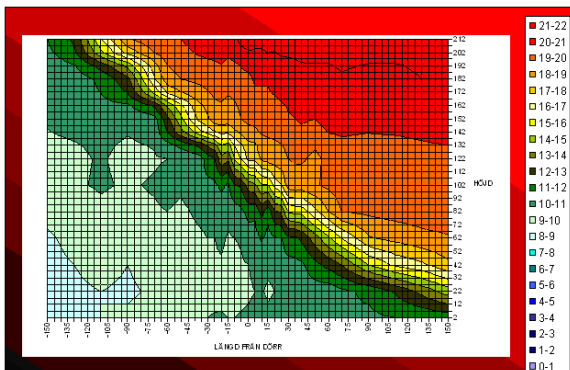

Fig. 1
- Fig. 1 shows the effect on the conditioned space without an air curtain and illustrates convective heat losses